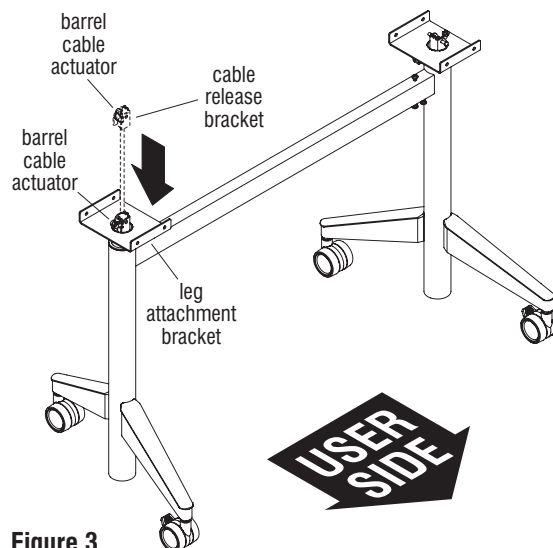

Figure 3
3. Press the barrel cable actuator firmly onto the cylinder release button and push the cylinder straight down with force until the cable release bracket weldment reaches the leg attachment bracket, then quickly release the actuator from the button to stop the cylinder from rising up. If the button is released before the cable release bracket weldment reaches the leg attachment bracket, go back to step 2 to start the process over. If the cable release bracket is lowered to within 1” inch of its proper lowest position, the table can still be assembled properly. Proceed back to “Nesting Support Assembly Installation” Instructions on page 5 or “Pneumatic-Adjustable Fixed Leg Assembly Installation” instructions on page 19 (Figure 3 & Detail C).